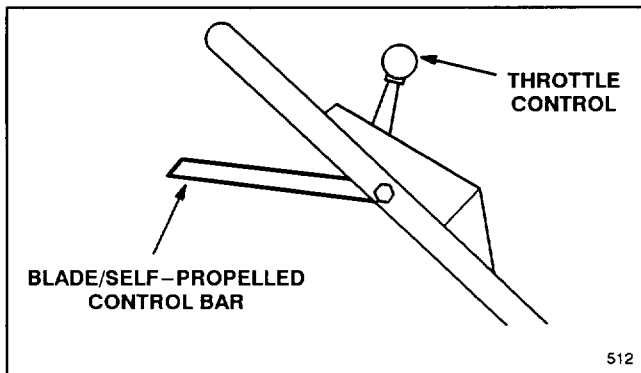
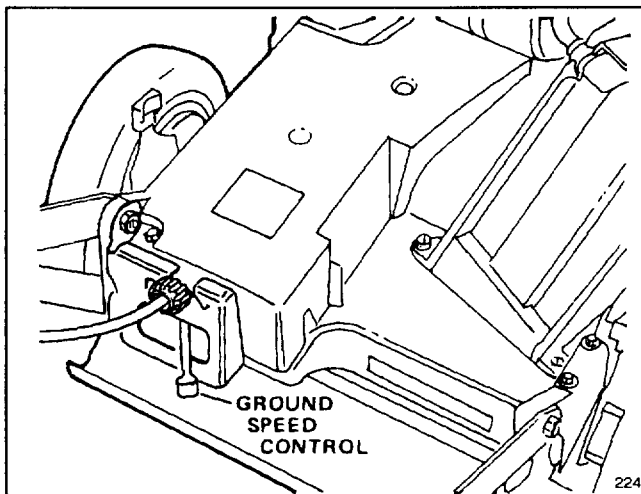

Figure 10
Figure 11
1. **CONTROLS**—Throttle control and blade/self-propelled control bar are on upper handle (Fig. 10). Ground speed control is located at rear of belt cover (Fig. 11). Recoil starter is on top of engine.